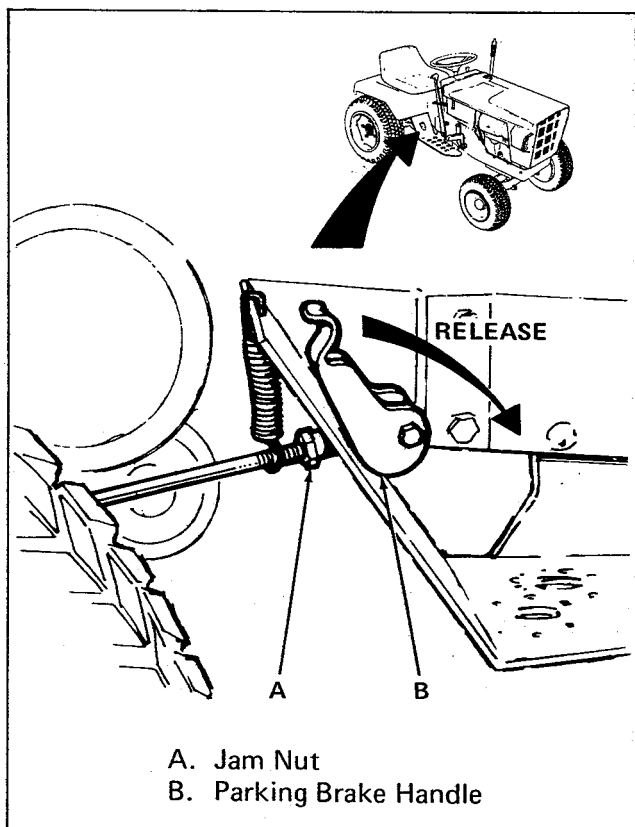

Figure 21. Parking Brake Adjustment
1. Loosen jam nut (item A, figure 21).